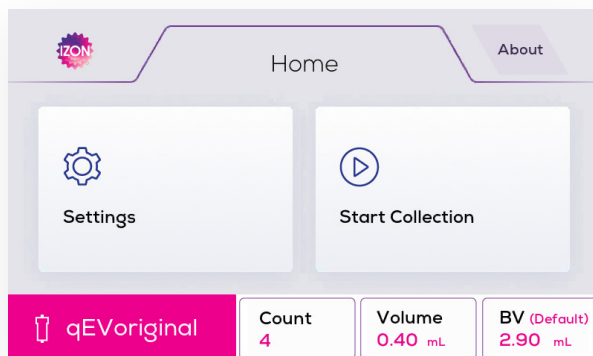

Figure 6: Press Settings on the home screen.
1. Press **Settings** on the left-hand side of the home screen as shown in Figure 6: